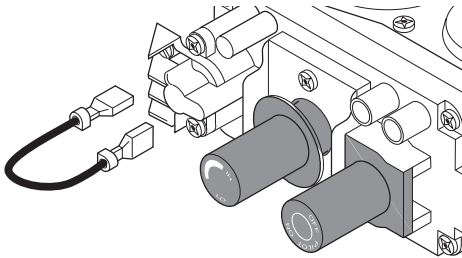

Figure 23 - Disconnecting Jumper Wires From Control Valve
1. Disconnect jumper wires from the control valve (see Figure 23).